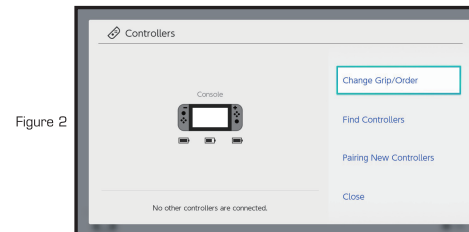

Figure 2
4. Select the "Change Grip/Order" option. (Figure2)